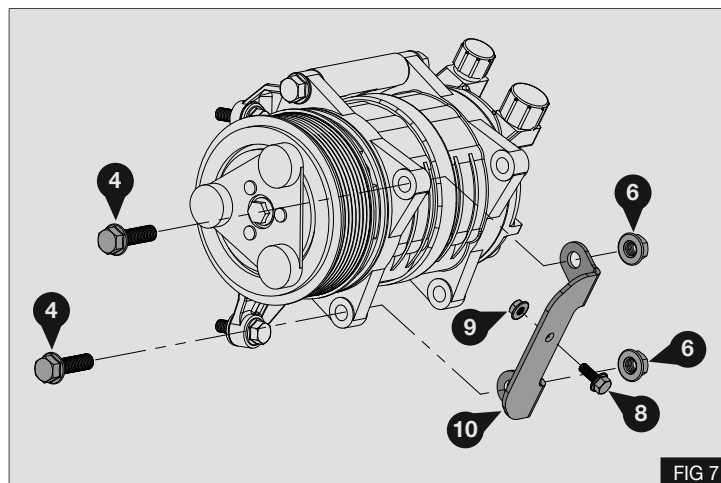

FIG 7
2. Install the supplied pipe support bracket ⑩ using bolts ④ and nuts ⑥ as shown opposite. - Fig 7
3. Secure pipes ⑥ and ⑦ using original clamp ⑤ to bracket ⑩ with nut ⑨ and bolt ⑧ - Fig 7/8